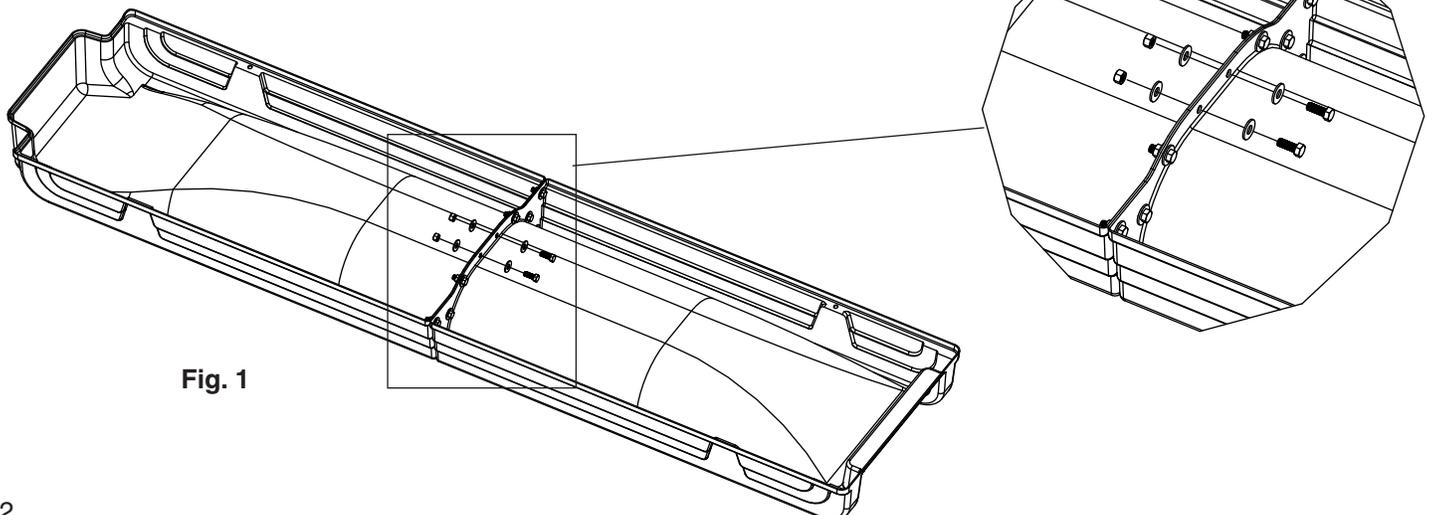

Fig. 1
- Fasten pivot with #8 x 2 1/2" deck screw provided. **(Fig. 1)**
- Attach water regulator to the end of hose. **(Fig. 1)**
2. Secure the two pieces together with ten 3/8" hex bolts, 3/8" washers and 3/8" lock nuts as shown. **(Fig. 1)**
3. From the underside of the existing slide, drill two 1/4" holes through both slides, one approximately 4" to the left and one 4" to the right of the top point of the star. (Fig. 1).
4. Remove the water slide and insert one 1/4" x 2" machine screw and 1/4" washer through one of the holes in the underside of the water slide. Use another 1/4" washer and 1/4" lock nut to securely attach the screw onto the water slide. (Fig. 1). Do this again for the other hole in the water slide.
3. From the underside of the beginning slide, drill two 1/4" holes through both slides, one approximately 4" to the left and one 4" to the right of the top point of the star. (Fig. 1). Locate the four mounting flanges on the Water Slide. Mark the ground under each flange by scraping the surface of the ground.